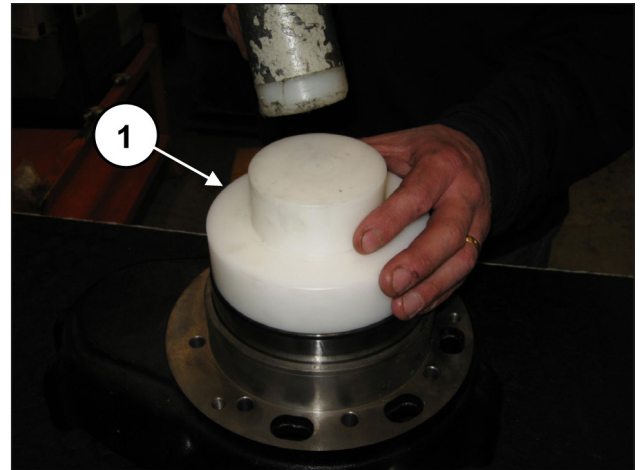
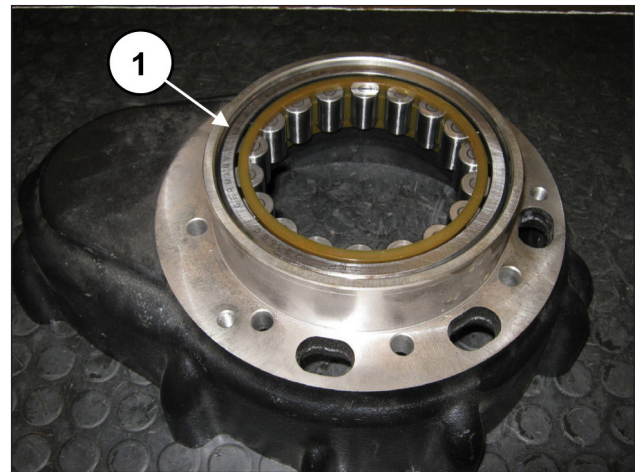

Fig. 53
Fig. 54
From the opposite side of the reduction gear box, pre-assemble the external ring of the bend shaft bearing using the tool code 27605000 (pos. ①, Fig. 53) inserting fully down to end stroke (pos. ①, Fig. 54).